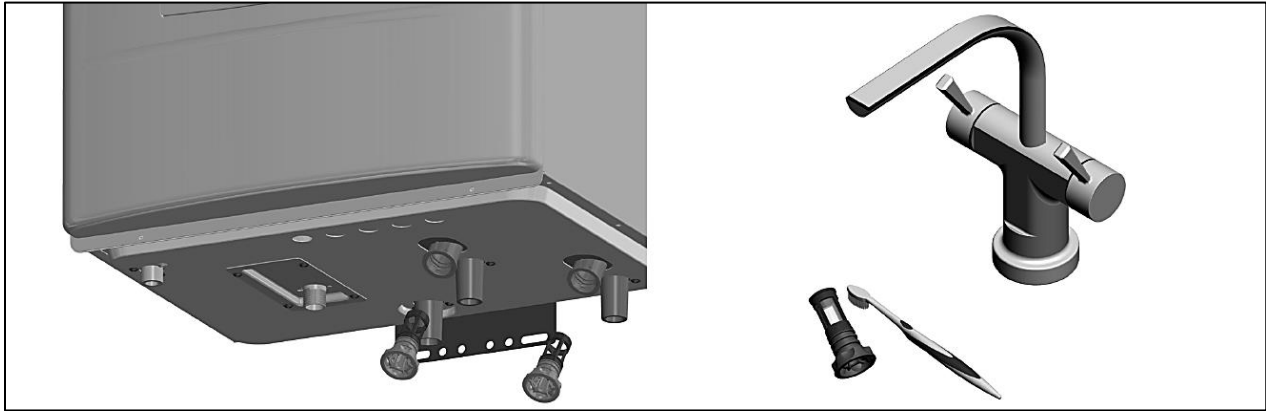

Figure 59 – Draining the Water Heater
5. Remove the cold water inlet filter. Then clean it with a toothbrush and clean running water. See Figure 59.